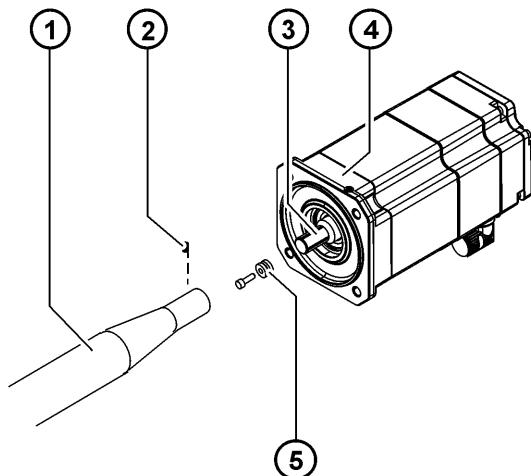

Fig. 11-10: Motor with connecting shaft
7. Slacken the setscrew (**>>> Fig. 11-10**) until the connecting shaft can be pulled off the toothring. Pull off the connecting shaft.